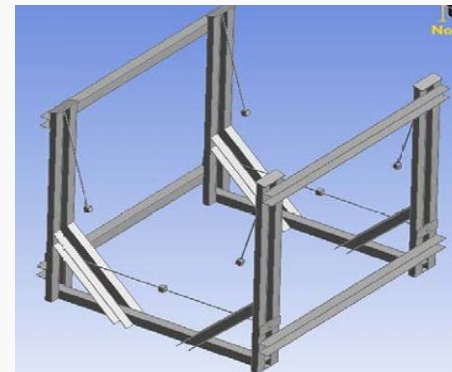

Figure 12 – LIGO Guided support model
- **No guided supports** [Figure 12] because the corrugations account for the thermal expansion